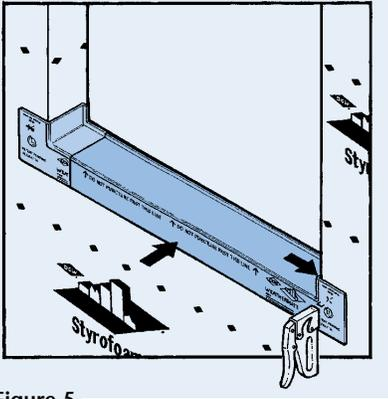

Figure 5
- c. Position second piece, overlapping first piece with a minimum overlap of 2". Press second piece firmly into corner of window opening. Nail or staple in place, following embossed instructions on product (Figure 5).